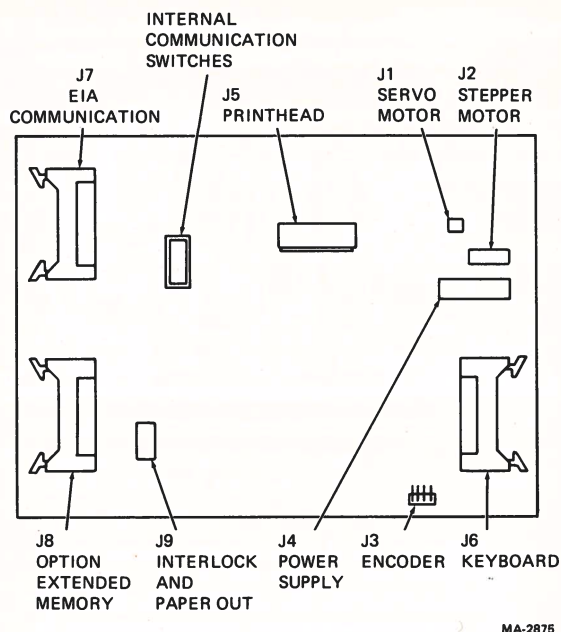

Figure 2-12 Logic Board Removal
Refer to Figure 2-12 for steps 6 through 12.
6. Disconnect the stepper motor connector from J2 on the logic board (Figure 2-12).
2. Disconnect the encoder connector from J3 on the logic board (Figure 2-12).
3. Disconnect the servo drive connector from J1 on the logic board (Figure 2-12).